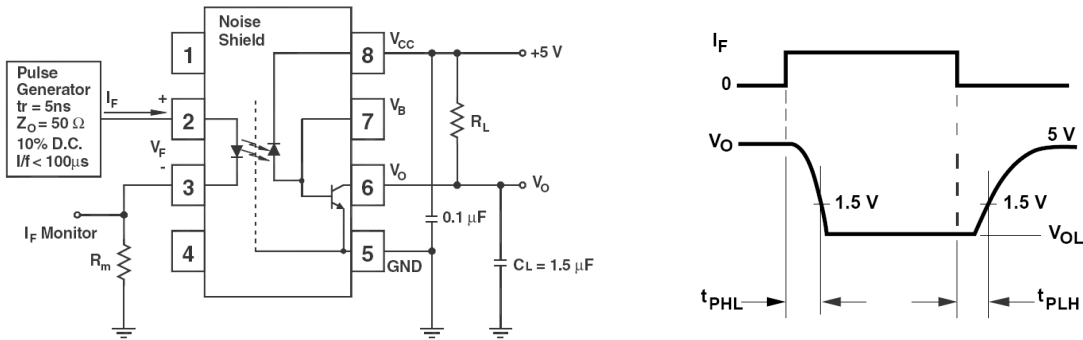

Figure 1: Single Channel Test Circuit for t_{PHL} and t_{PLH}
1. A $0.1\mu F$ or bigger bypass capacitor for V_{CC} is needed as shown in Fig.1